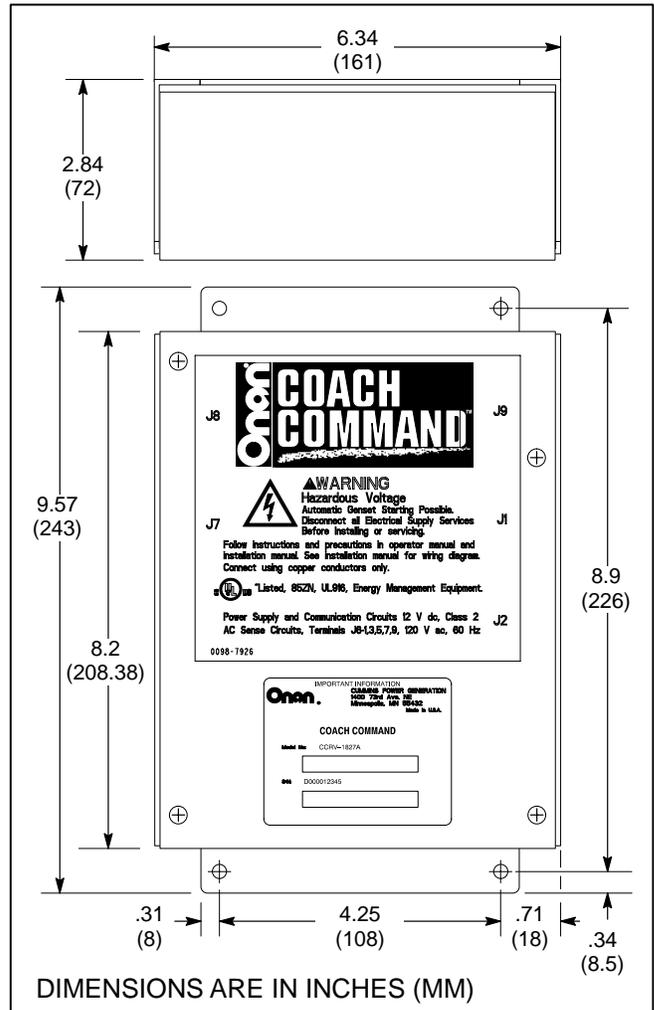
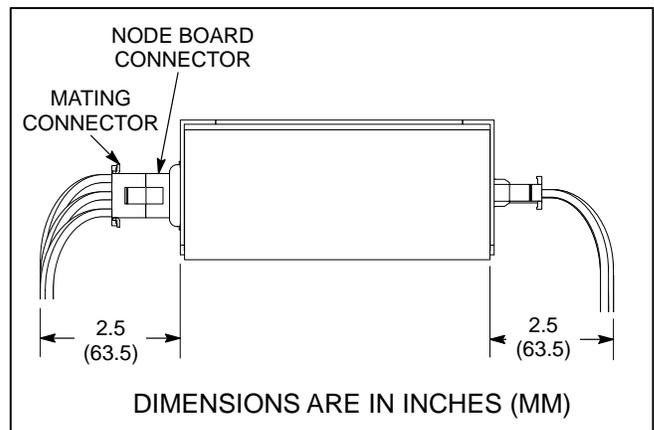

FIGURE 9-1. TRANSFER SWITCH NODE COVER
FIGURE 9-2. TRANSFER SWITCH NODE CABLE CONNECTIONS
1. Choose a location that provides adequate clearance for the transfer switch node cover (see Figure 9-1) and the communication cables (see Figure 9-2).
2. Drill mounting holes as shown in Figure 9-1. Make sure you do not drill into other electrical components.